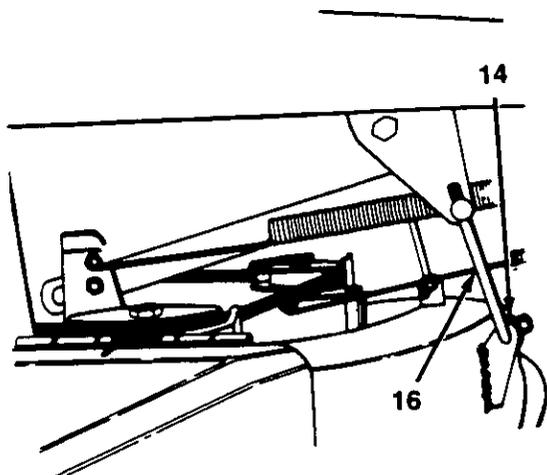

FIGURE 13.
3. If the front is not between 1/4" and 3/8" lower than the rear, remove the hairpin cotters and flat washers which secure the J-bolts to the front of the deck, both right and left sides. See figure 13. Thread the J-bolts into or out of the ferrules as necessary.